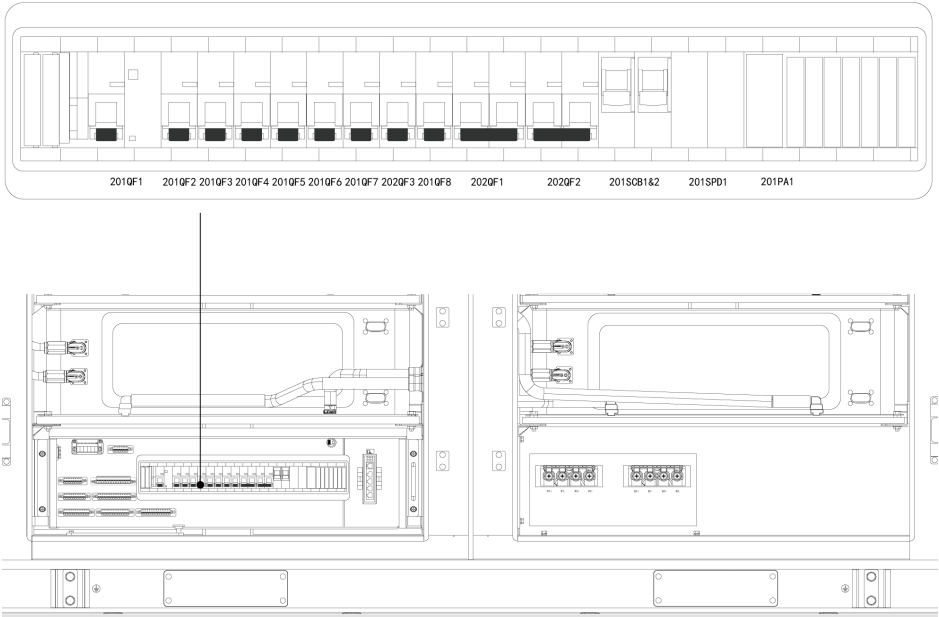
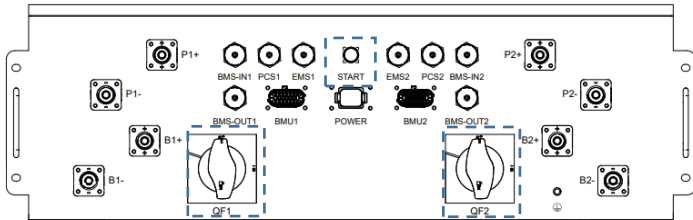

Figure.2
Figure.3
- ① Turn on the surge protection circuit breaker **201SCB1** and **201SCB2**. See the Figure.2.
- ② Attach to auxiliary power and external UPS. See the “How to position terminals related?”in the section 4.2.1. Verify that both the external AC auxiliary power input and the external UPS AC input voltages are within their specified normal ranges by utilizing a multi-meter.
- ③ Turn on the AC auxiliary power supply breaker **201QF1** and AC UPS breaker **202QF1**. See the Figure.2.
- ④ Turn on the PV power breaker **201QF2** after ensuring the voltage level of the external photovoltaic loop is within the normal range by utilizing a multi-meter. See the Figure.2.
- ⑤ Turn on the lead-acid battery breaker **202QF3** and perform a vision inspection for the ring network switch by indicators' lighting up.
- ⑥ Turn on the liquid cooling system breaker **201QF3**, DC auxiliary power breaker **201QF4**, and dehumidifier breaker **201QF6**. See the Figure.2.
- ⑦ Press the **START** button, turn on the BAT MCCB **QF2** and **QF1** on the DC PDU. See the Figure.3. Measure the 24V DC voltage at the input of 202QF2, and verify the high-voltage box, battery pack power supply, and communication status. If all are normal, turn the DC auxiliary power breaker **202QF2**. See the Figure.2.